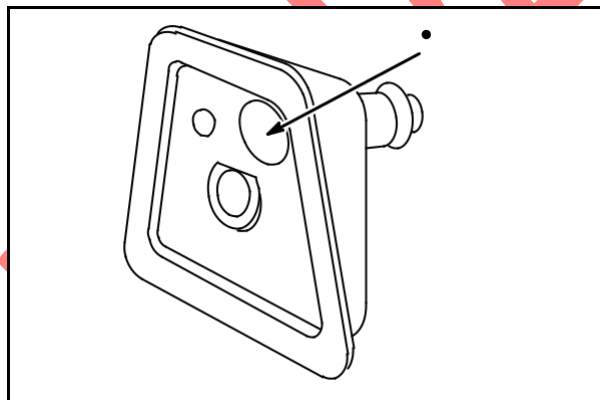

Fig. 6
The reed valve is spring loaded and must make a complete seal around the vent hole (1) in breather body, **Fig. 6**. Check to see that reed valve is not deformed.